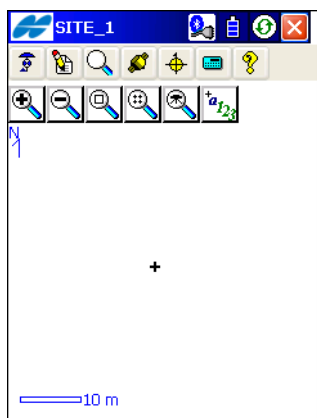

Figure 3-90. List Menu Icons
- **Use Icons** – check and enable this box to use the icon main menu instead of the list of names (Figure 3-90 on page 3-92).